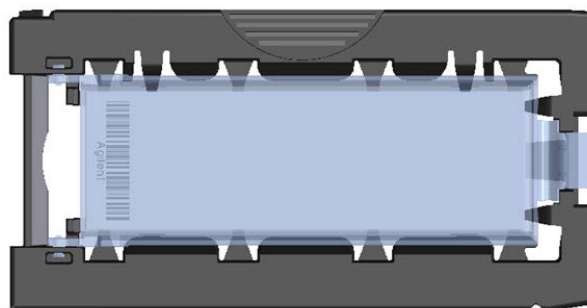

Figure 9 Slide holder – closed with slide
- g** Close the plastic slide cover, pushing on the tab end until you hear it “click”. See Figure 9.